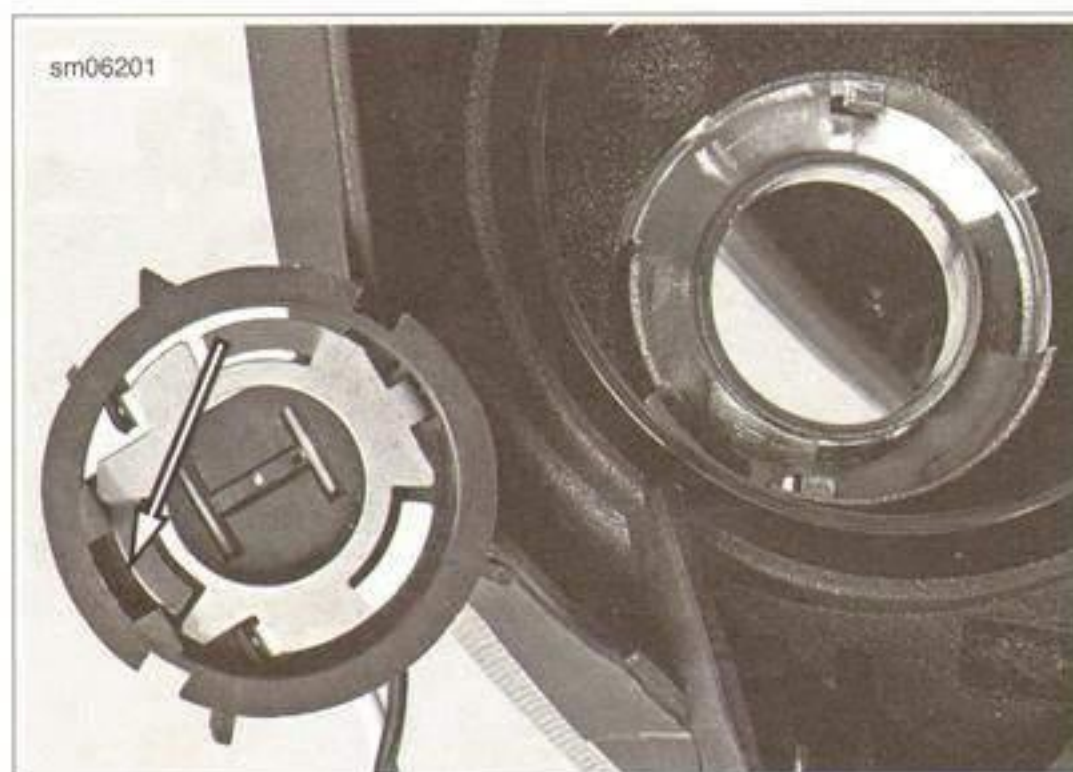

Figure 7-55. Notch for Bulb Tab: RH Bulb Receptacle
5. See Figure 7-55. Fit a **new** bulb matching the tab on the bulb holder to the tab in the receptacle.